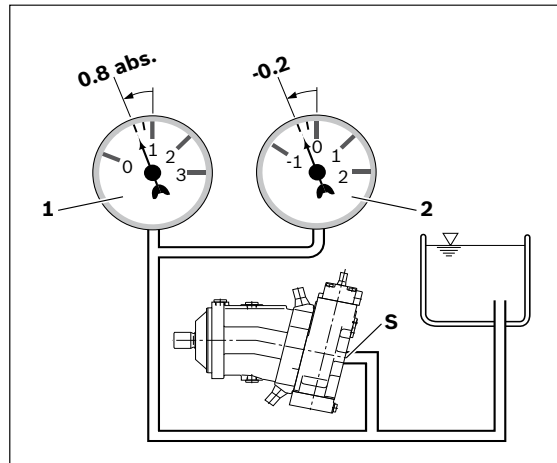

Fig. 6: Suction pressure
- ▶ Make sure that a minimum suction pressure of 0.8 bar absolute is present at port **S** during operation for all installation positions and installation locations of the axial piston pump; see Fig. 6. See data sheet for pressure values.